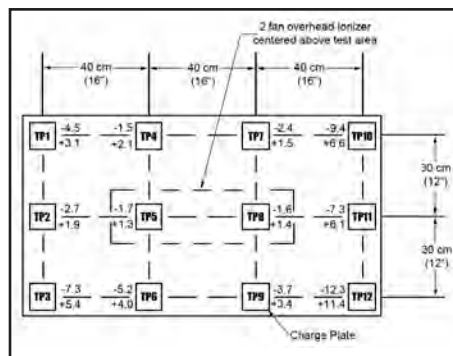

Figure 5. Neutralization (discharge) times - 2 fan ionizer
- VI. Test the neutralization (discharge) time by applying  $\pm 1,000$  volt on the charged plate. The neutralization (discharge) time should be less than 3 seconds when charged plate analyzer is directly under a fan. See figures 5 and 6 for typical discharge times. The required limit per ANSI/ESD S20.20 is "user defined".